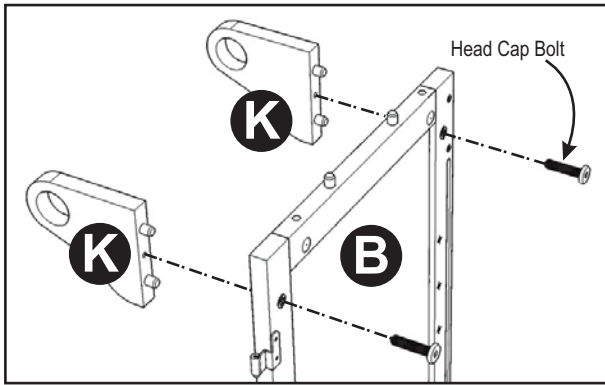

Figure 4
Attach Arms (K) to Side Panel (B) with Head Cap Bolts. (See Figure 4)
Attach Pull Handle with Machine Screws. (See Figure 4)